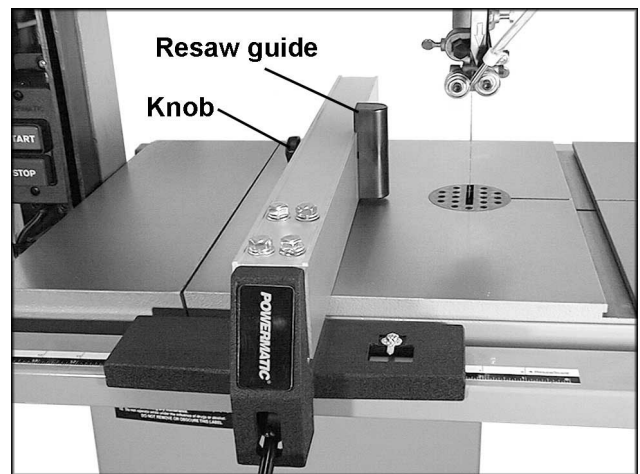

Fig. 20
14. For resawing operations attach the resaw guide (Fig. 20) to the fence with the knob. There is a slotted hole in the fence that will accommodate the resaw kit. Position the resaw guide so that it is centered with the front edge of the saw blade. The resaw guide will give you a taller, single-point contact surface during resawing.